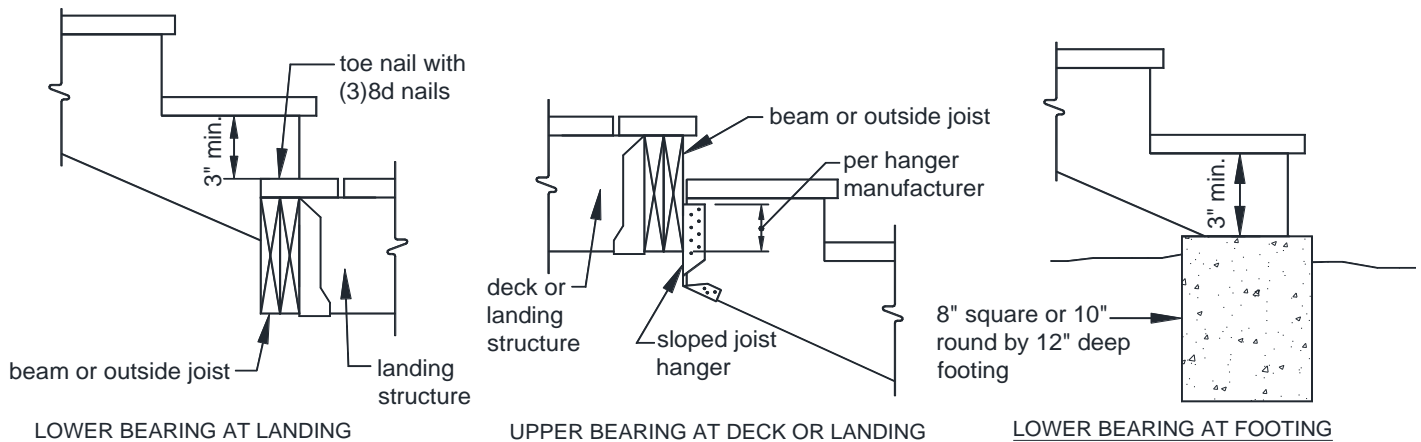

FIGURE 40: STRINGER BEARING
- Stringers shall bear on footings and attach to the deck or landing per FIGURE 40.